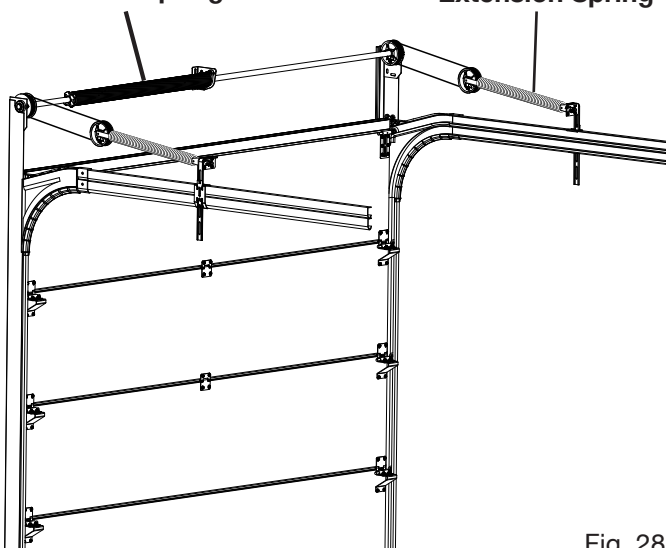

Fig. 28
- Orient the header bracket as shown in figure 28.